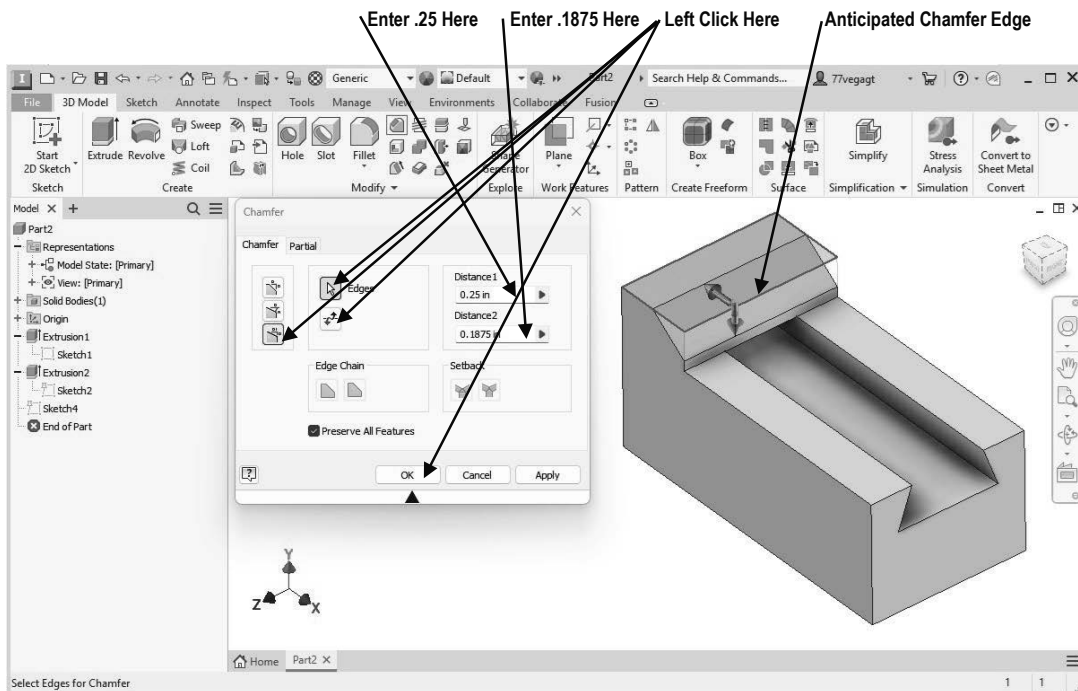

Figure 3
5. After selecting **Chamfer**, the Chamfer dialog box will appear. Left click on the anticipated chamfer edge shown below. Left click on the **Edges** icon. Left click on the “Two Distance Chamfer” icon. Enter **.25** for Distance 1 and **.1875** for Distance 2. Left click on the “Flip” icon to reverse the direction of the Chamfer if necessary. Left click on **OK** as shown in Figure 3.